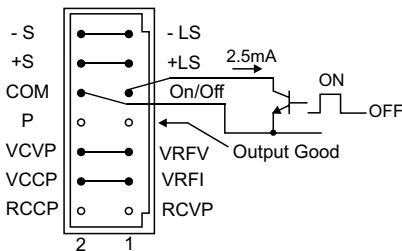
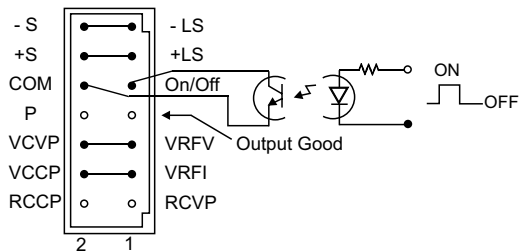

Fig. 4-3: ON/OFF Control, references to - Sense. (ZUP rear panel view)
Fig. 4-4: Floating ON/OFF Control (ZUP rear panel view)
Contacts 9, 10 at the rear panel External Control connector (fig. 4-2, item 4) serve as ON/OFF terminals. Either short circuit or TTL '0' level enables the power supply output and open circuit or TTL '1' level disables the power supply's output. An open collector transistor can be used for the ON/OFF control as shown in fig. 4-3, with sink current ability of more than 2.5mA. Please note that pin 10 (COM) is internally connected to the - Sense potential, therefore for floating ON/OFF Control a photocoupler should be used as shown in fig. 4-4.